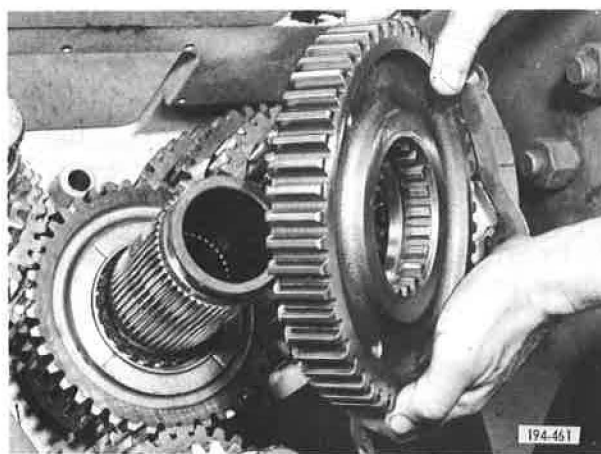

Figure 5-93 . Installing Second Speed Gear
7. Install second speed gear (clutch teeth to the rear) with thrust washer over second/third speed sliding clutch and engage with the countershaft second speed gears. See Figure 5-93 .